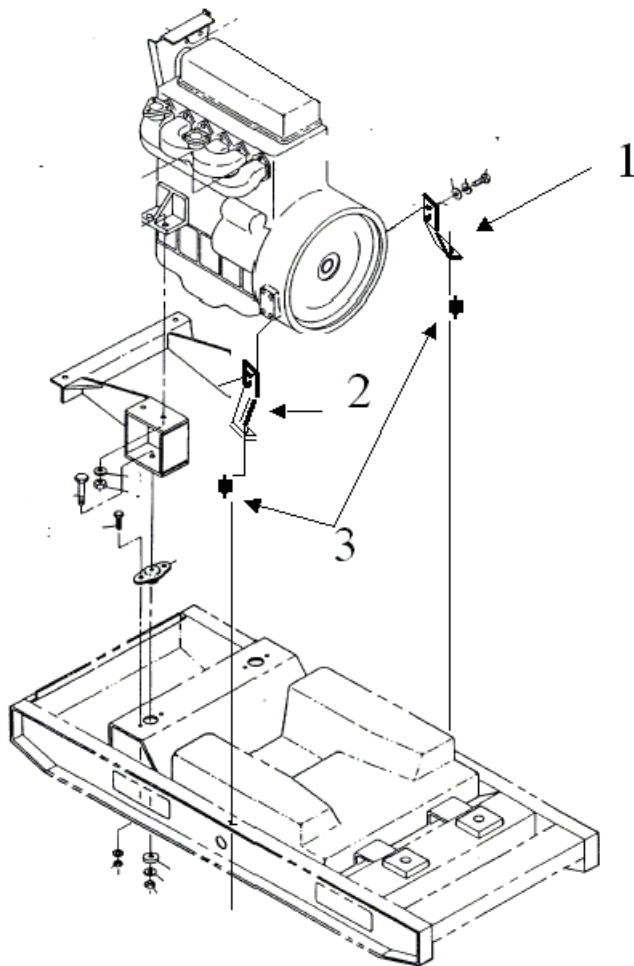

Fig 1
24. Repeat steps 12-23 for RH support bracket (**Fig 1, Item 2**) installation. (**Parts Required**)